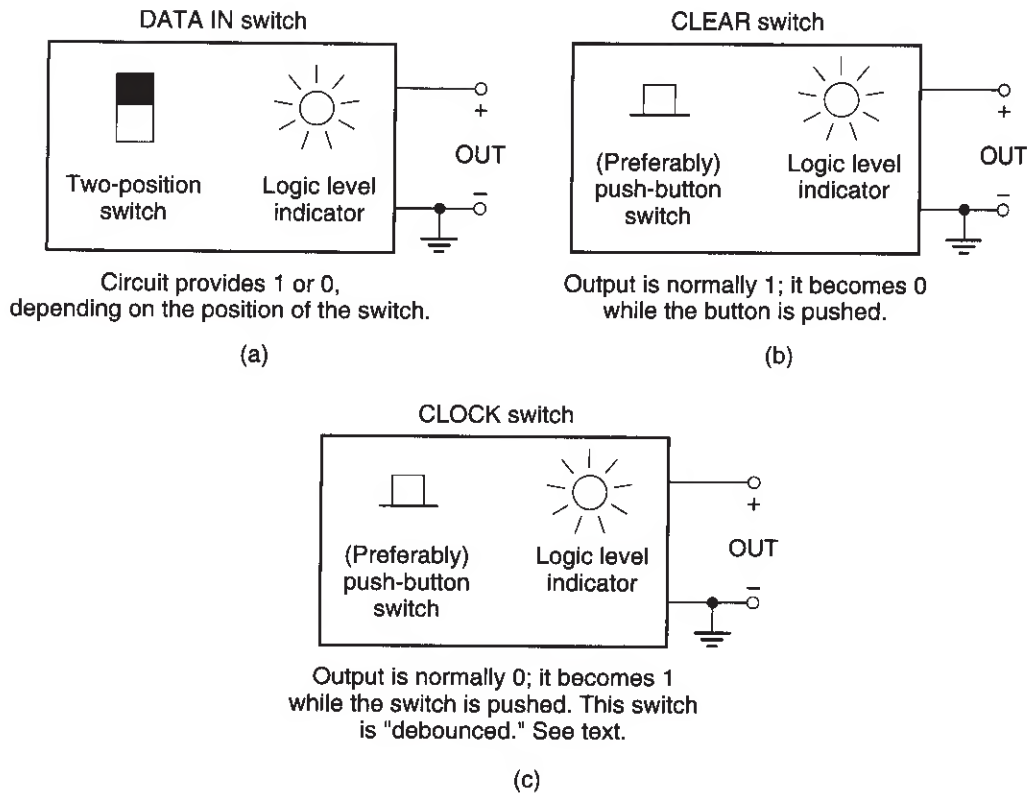

Fig. 1
1. **DATA IN switch:** When we need voltages that correspond to a logic 1 or 0, and when the device to which these are fed is *not* sensitive to the details of the *transition* between these two levels, we can use the *data in* switch shown in Fig. 1(a). Depending on the position of the switch, a logic 1 or 0 appears at its output and *stays* there until the switch position is changed. An LED logic level indicator should be connected to the switch output; this indicator will normally be available on your digital experimentation breadboard. Verify the operation of the circuit by flipping the switch back and forth and observing the indication of the LED.
2. **CLEAR switch:** The *clear* switch in Fig. 1(b) provides a signal that is normally a logic 1. When the push-button switch is pushed, the output becomes a logic 0. As soon as the switch is released, the output goes back to its normal logic 1. *If the switch*
3. **CLOCK switch:** The *clock* switch in Fig. 1(c) has an output that is normally 0 and becomes a “clean” 1 for as long as the switch is pressed.¹ If your *CLOCK* switch is a two-position one, maintain it at the logic 0 position; when you are asked to push (and release) the clock button in the description that follows, move the switch to the logic 1 position and then back to the logic 0 position. As before, an LED indicator should be connected to the output of the switch. Test the operation of this circuit.